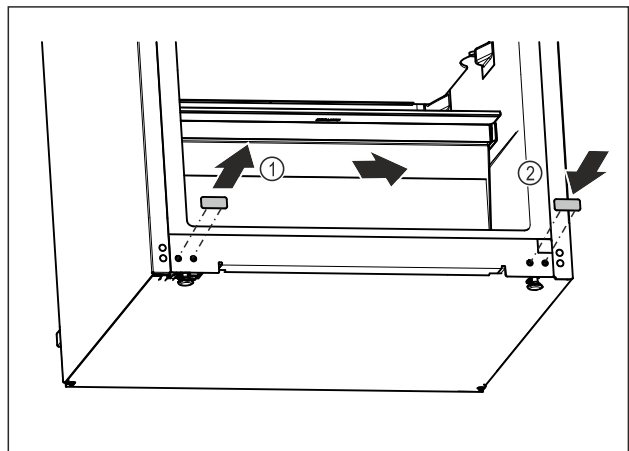

Fig. 16
- Pull out the cover plug. Fig. 16 (1)
- Insert the cover plug on the opposite side. Fig. 16 (2)